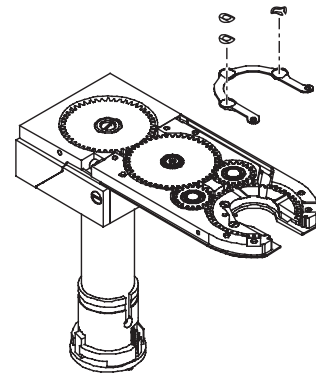

Figure 48 *Removing the Brush and Springs*
7. Remove the brush, wave spring, and curved disc springs as shown in Figure 48 and discard. See the spare parts list in Table 3 for ordering information and contact your authorized Swagelok sales and service representative for replacement parts.